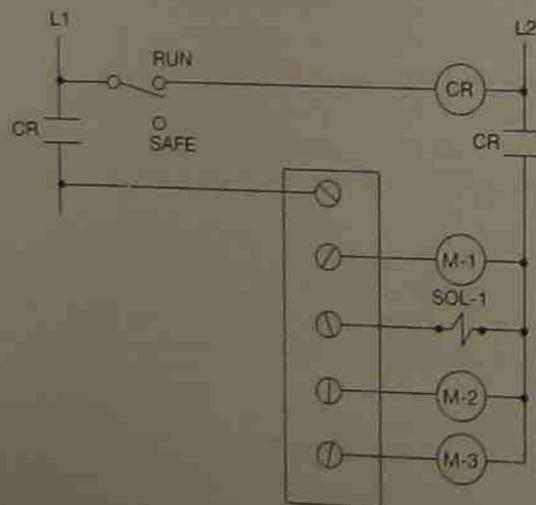

Figure 11-7 Safety Circuit
Figure 11-7 shows how a control relay (CR) and safe-run switch is added to interrupt line 2 to the discrete output devices of an automatic machine or process.